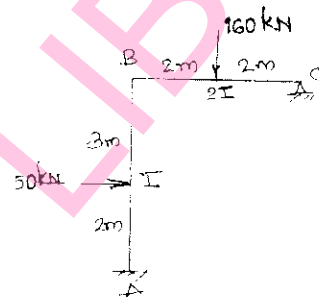

Fig.Q7
- 7 Analyse the bent shown in fig. Q7 by stiffness method and draw B.M.D. Use system approach. (20 Marks)